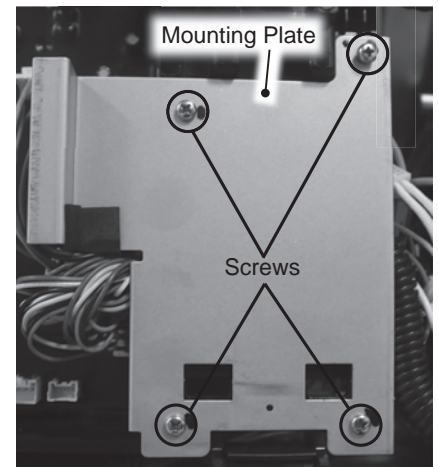

Figure 15 - Mounting plate screw removal.
7 Locate the four (4) screws securing the metal mounting plate. See Figure 15. Use a Phillips screwdriver to remove the screws. Place screws and mounting plate aside in a safe place for reinstallation.
36 Reinstall the metal mounting plate using the four (4) screws removed in **Step 7**. See Figure 15.